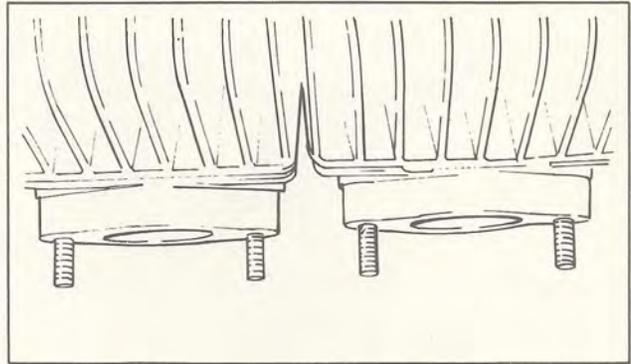

Fig. 2-52
- (2) When installing both right and left cylinders, the intake port flanges must be lush with each other. If not, the throttle valve and choke valve will not operate smoothly. (Fig. 2-52)